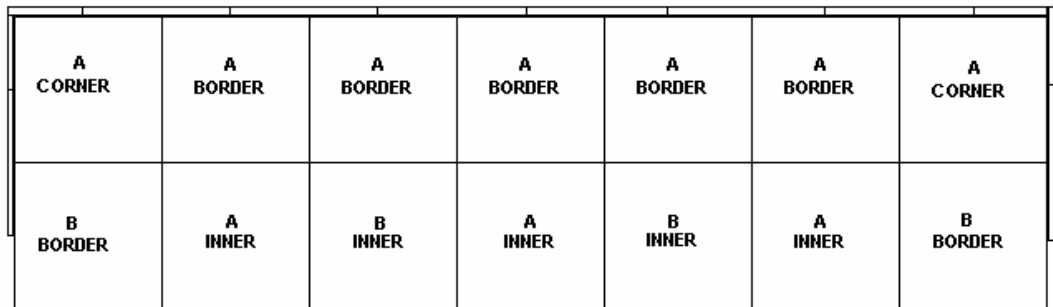

Figure 20
19. Next you need to lock the right side panels with a transition in the same manner that you did with the top and left side. (Figure 20)